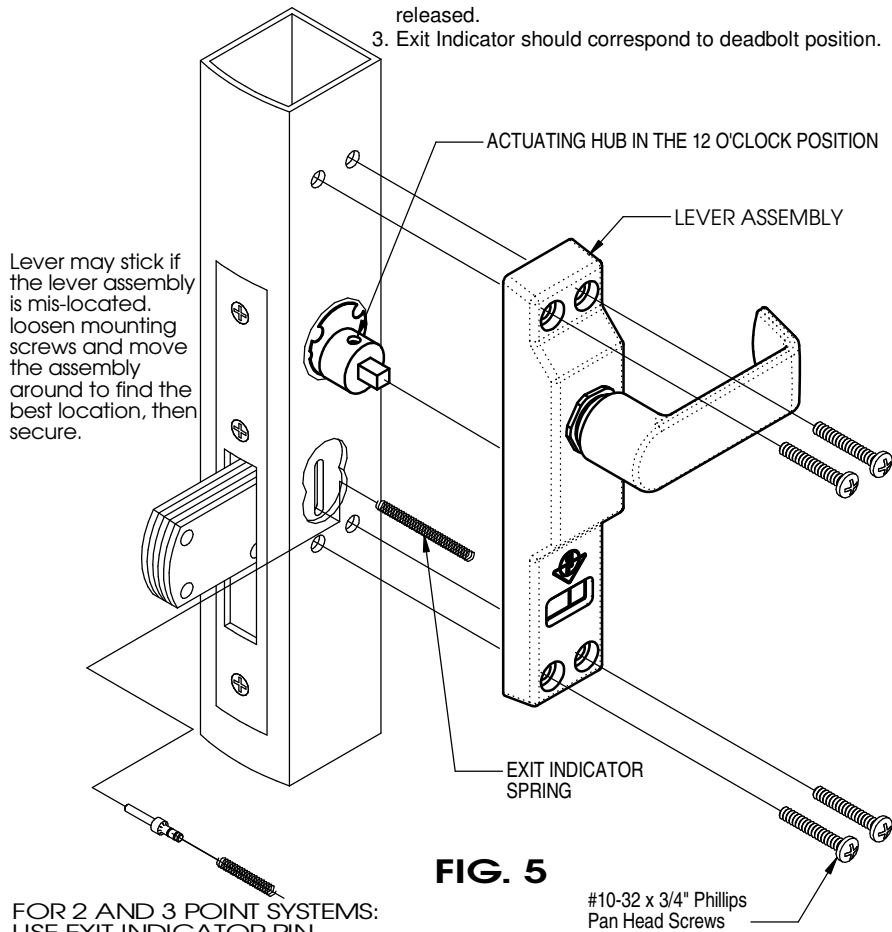

FIG. 5
1. Rotate actuating hub until deadbolt extends and until it makes a complete stop. Then rotate the actuating hub back approximately 1/4 turn until the hole is at the 12 o'clock position (as shown in fig.5).